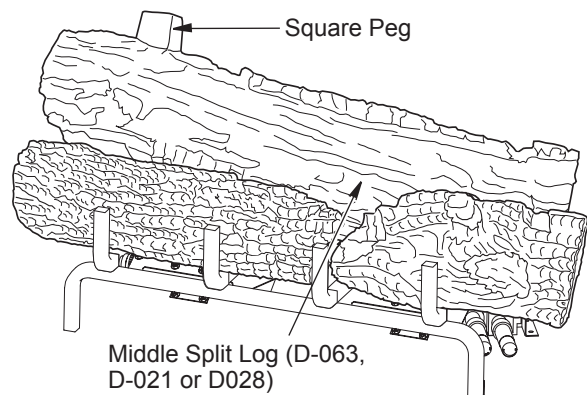

Figure 23 - Installing Middle Split Log (D-021)
5. Find the middle split log (LMF36-SC and VFGT24 inch models: D-063 or LMF42-SC and VFGT30 inch models: D-021 or LMF48-SC and VTGF36 inch models: D-028). See Figures 23 and 23A. The split side of the log faces forward. The log has a notch that fits around the burner tube on the right side. The left side of the burner tube fits into the notch on the back side of this log. The log is placed properly when it sits parallel to the tube burner and the square peg is pointing up. See figures for reference.